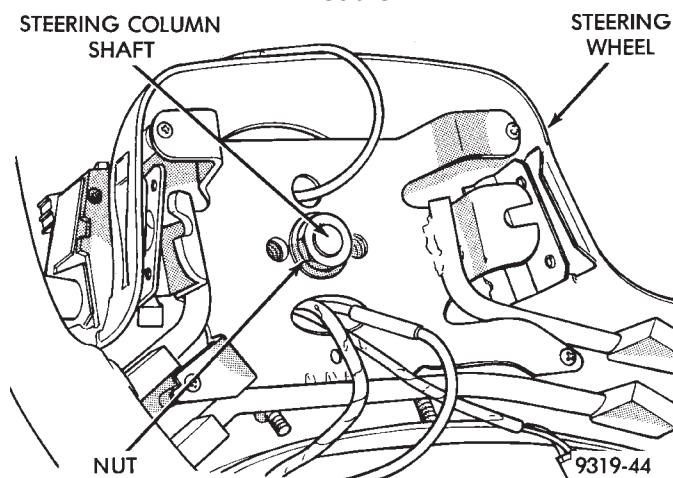

Fig. 5 Steering Wheel Retaining Nut
(6) Remove the steering wheel retaining nut from the steering column shaft (Fig. 5).